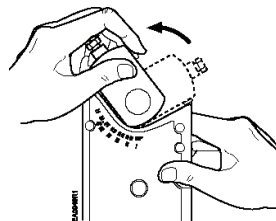

Figure 5
- b. Hold down the **PUSH** button and rotate the shaft adapter to the left until it stops. See Figure 5.